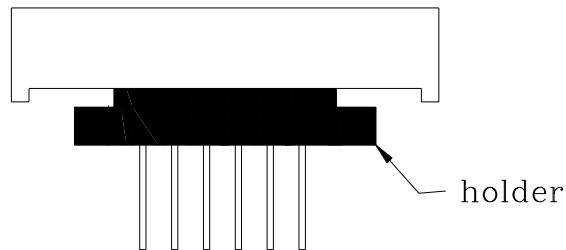

Fig.4
2) Use Display with holder made of resin (Fig.4) to position the PIN.